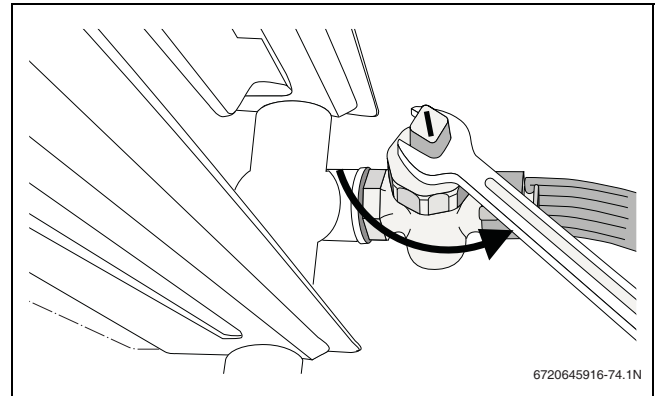

Fig. 76 Draining the heating system (example)
- ▶ Drain the heating water at the lowest point of the heating system, using the drain cock or the heating body (→ fig. 76). The (automatic) air vent at the highest point of the heating system/radiator must be open.